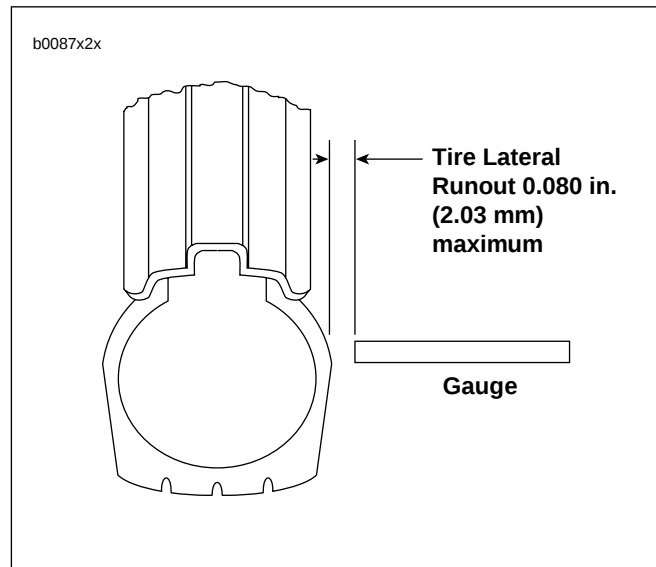

Figure 2-14. Checking Tire Lateral Runout
1. See Figure 2-14. Turn wheel on axle and measure amount of displacement from a fixed point to tire sidewall.